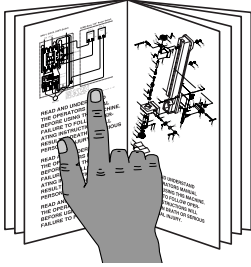

Figure 10. Loosening the exhaust cap screw.
1. Use the 4mm hex wrench to loosen the exhaust cover cap screw as shown in **Figure 10**.